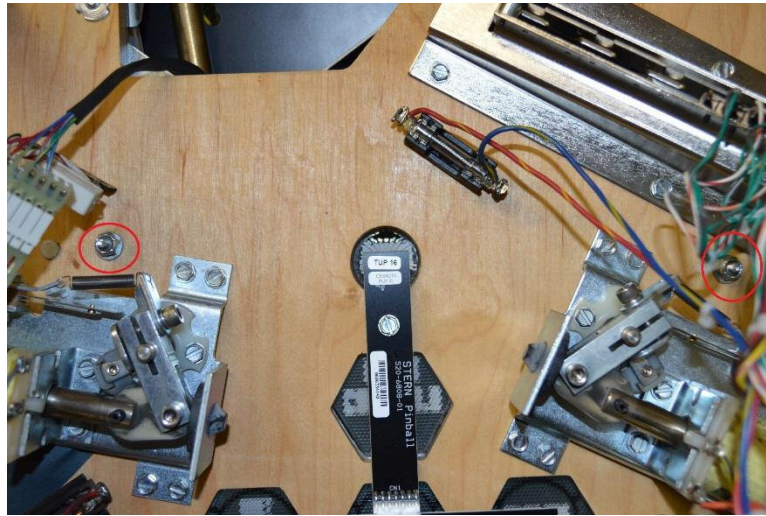

Figure 1. Remove Apron Nuts
- 1) Begin by removing the metal apron on the machine; to do this – locate the two 11/32” nuts on the bottom side of the playfield holding the front the apron down. These nuts are are indicated in Figure 1 below: